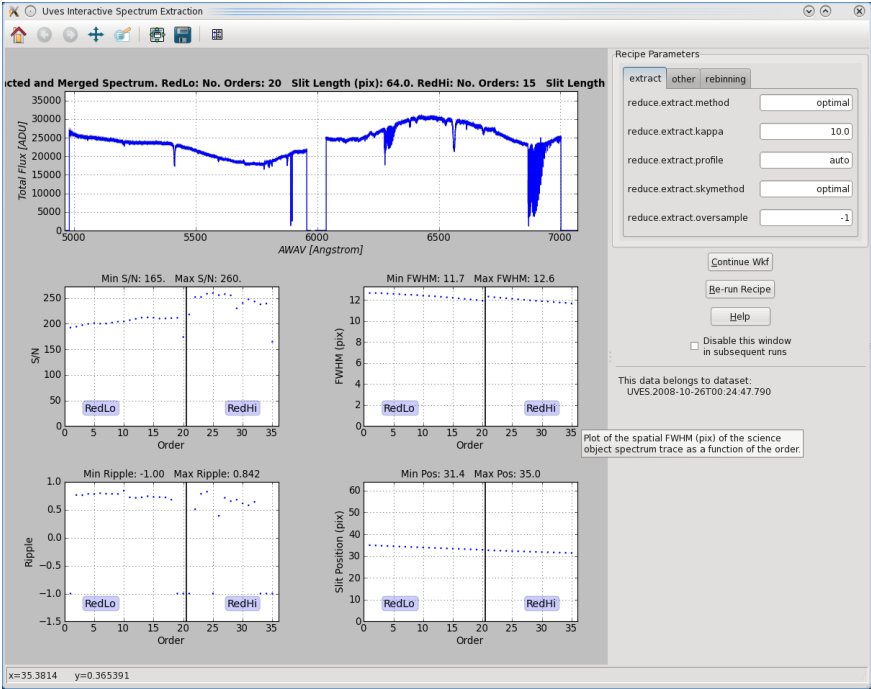

Figure 7.4: The interactive window for the Spectrum Extraction actor for the first DataSet in the data supplied with Reflex 2.5.
15. **Spectrum Extraction:** In Figure 7.4, we show the interactive window associated with the `Spectrum Extraction` actor, which executes the UVES pipeline recipe `uves_obs_scired`. This pipeline recipe performs the extraction of the science object spectrum using optimal extraction (Horne 1986),